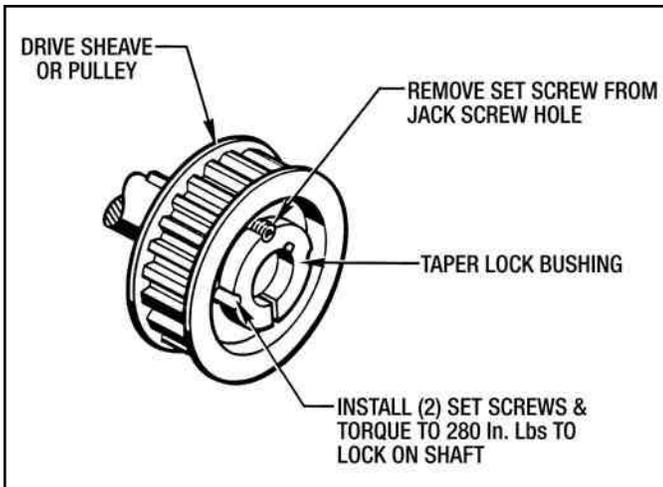

Figure 9.19 - Installing Drive Sheave or Pulley With Taper-Lock Bushing
2. Assemble the Taper-Lock Bushing and the Drive Sheave or Pulley with the (2) Set Screws placed in the (2) Locking Holes.
3. Place Assembled Drive Sheave or Pulley onto the Male Input Shaft as close as possible to the drive unit to minimize overhang shaft deflection. Tighten (2) Set Screws to lock it on the Input Shaft (See Figure 9.19).